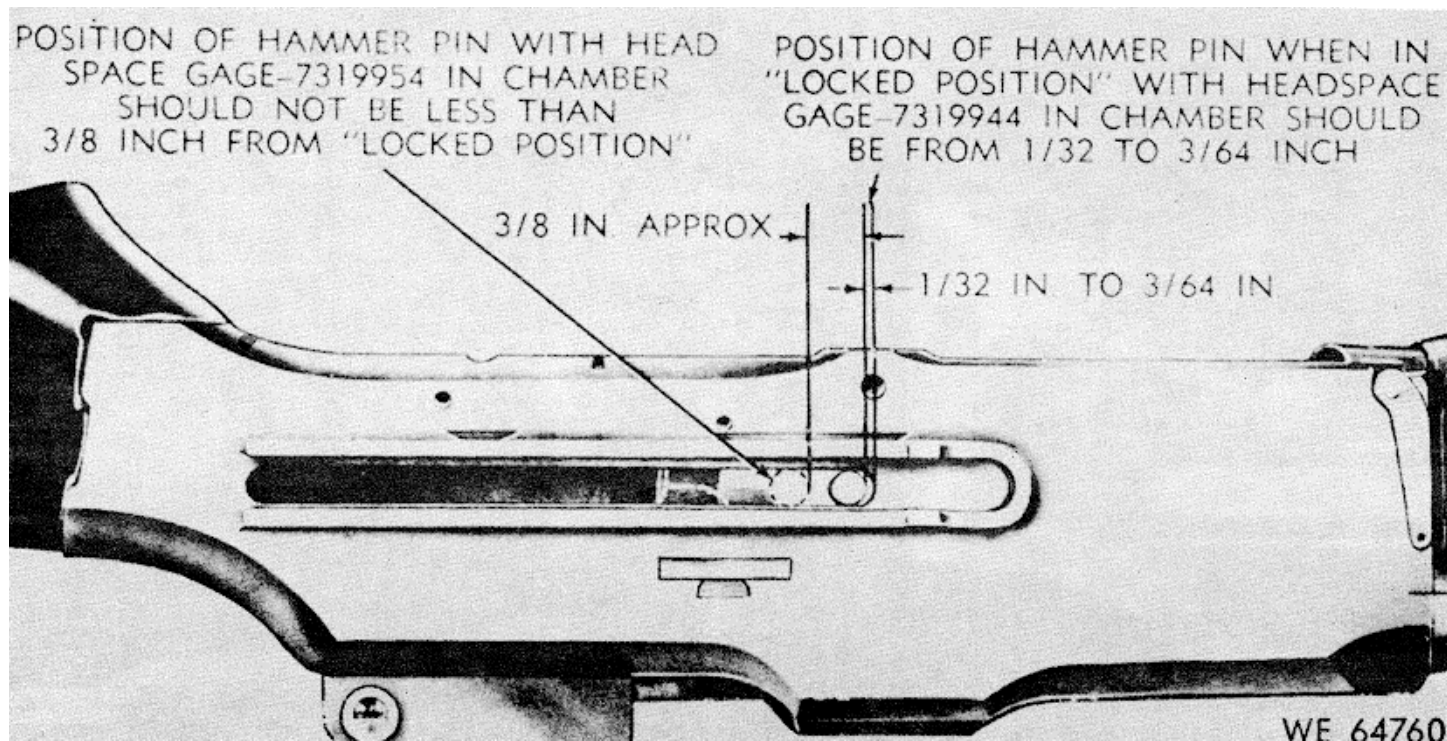

Figure 3-11. Gaging headspace.
e. Check headspace (fig. 3-11).